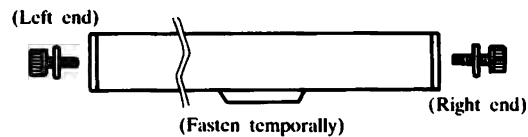

Fig. 84
- (5) Mount the right and left cover with the bolt (5×25) with the washer (Fasten temporarily) (Refer to Fig. 84)